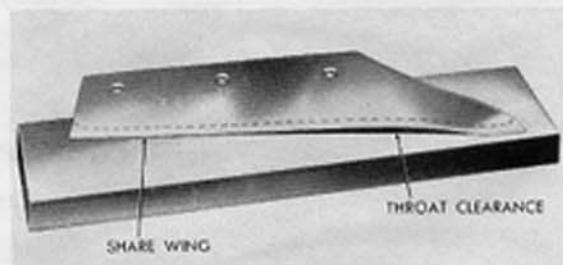
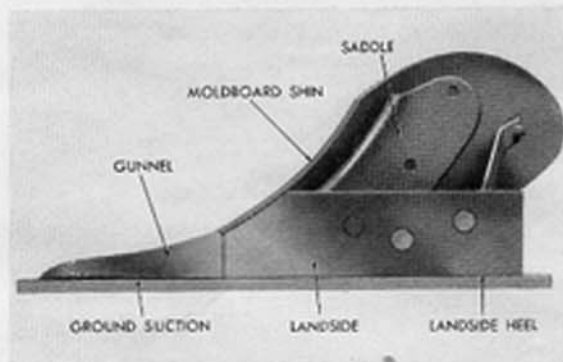

Fig. 13A
Fig. 13B
3. Set the throat clearance and ground suction, Fig. 13a and Fig. 13b, in the point of the share by reheating it to a dull red, laying the point over the edge of the anvil and hammering it downward.
The ground suction, Fig. 13b, should be about  $\frac{3}{16}$ " measured at the gunnel with the point and heel of the gunnel laying on the anvil.
The throat clearance should be at least  $\frac{1}{8}$ " measured from the cutting edge to the anvil, Fig. 13a.